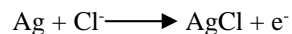

*Figure 1*
- **Polishing the metal electrodes:** If the cathode (the small, shiny, metal contact in the center of the glass stem shown in Figure 1) and anode (the silver, metal foil surrounding the lower portion of the inner body) become discolored or appear corroded, polish them with the polishing strip that is provided with the probe. Perform this operation only as needed to restore electrode performance—it should be necessary only once every year or so. Remove the membrane cap from your Vernier Dissolved Oxygen Probe. Thoroughly rinse the inner elements of the probe with distilled water to remove all filling solution. Cut a one-inch piece from the D.O. Electrode Polishing Strip provided. Wet the dull (abrasive) side of the polishing strip with distilled water. Using a circular motion, polish the center glass element of the cathode (on the very end of the electrode). Use gentle finger pressure during this polishing operation. Polish only enough to restore a bright, clean surface to the center element. Next, polish the silver anode located around the base of the electrode inner element. Polish only enough to restore a silver appearance. **Note:** Aggressive polishing will damage the probe inner elements. *Be sure* to use only gentle pressure when performing the polishing of the anode and cathode. When you have completed the polishing, rinse the cathode and anode elements thoroughly and dry with a lab wipe.